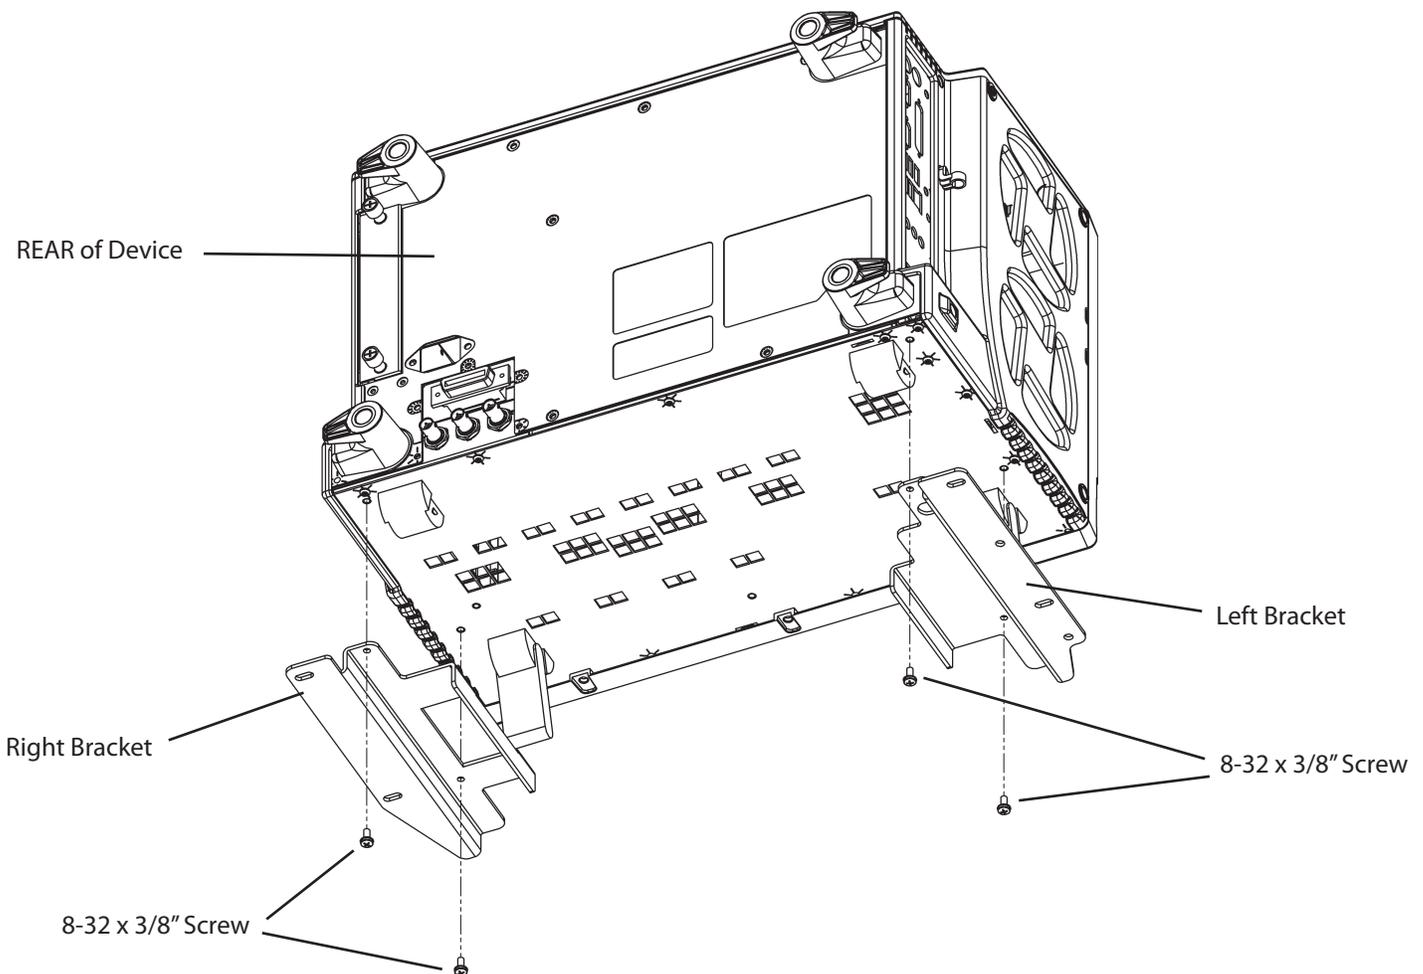

Figure 3: Installing The Brackets, Shown On DPO7000 Series Device
1. The brackets are mounted near the sides of the device using the holes in the bottom of the device as shown in Figure 3. Device is shown from the rear. Be careful to put each bracket on the correct side. Also note that the front feet must be in the open position to install the brackets.